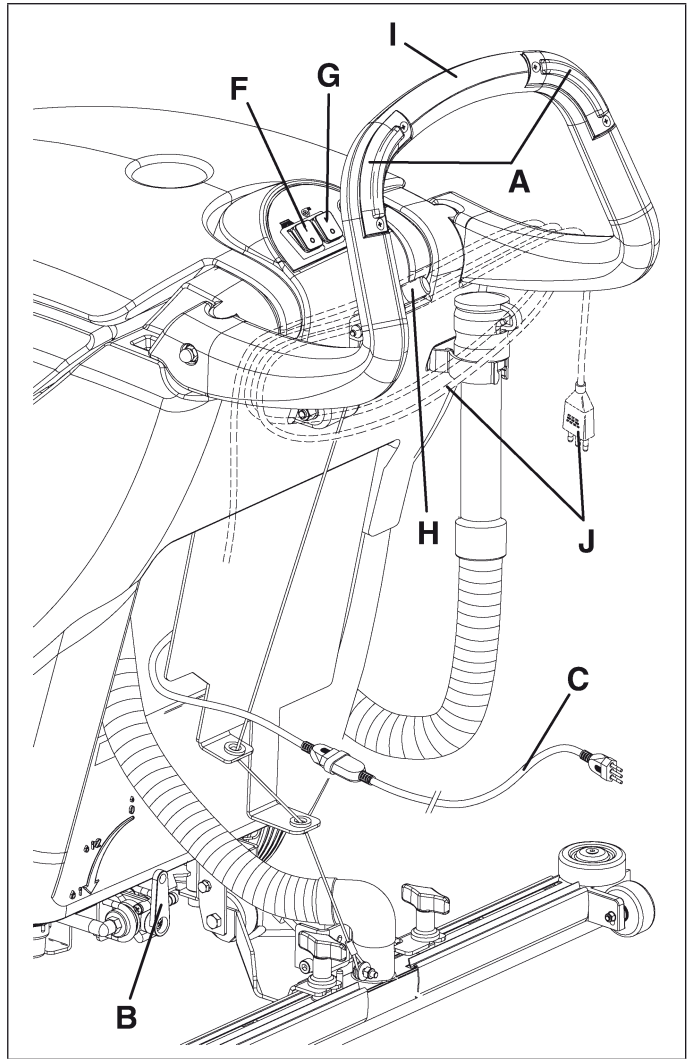

Figure 10
2. While keeping both hands on the handlebar (I, Fig. 10), move the machine and start scrubbing/drying the floor.
When the machine is stopped, stop the brush/pad by releasing the switches (A, Fig. 10).
Before lifting the brush/pad, stop its rotation by releasing the switches (A, Fig. 10).
3. If necessary, adjust the solution flow sent to the brush/pad by turning the lever (B, Fig. 10).
1. Turn the brush/pad rotation switch and the water vacuuming switch (F and G, Fig. 10) to the "0" position.
2. Disconnect the power supply cable plug (C, Fig. 10) from the electrical mains. Roll up the power supply cable on the handlebar into position (J).
3. Lift the squeegee by pushing the lever (H, Fig. 10) completely upwards.